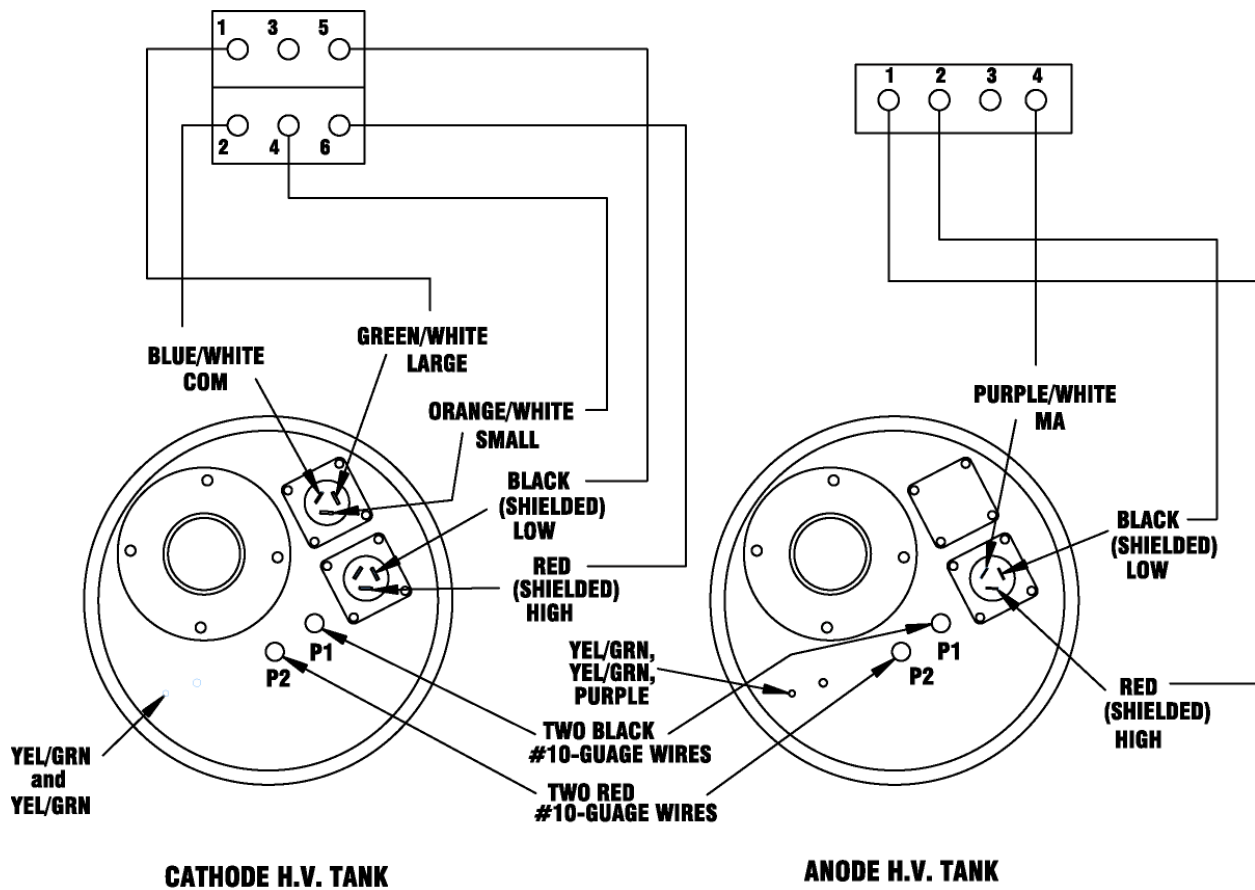

Figure 5-2 High Voltage Tank Connections
1. Locate ground wires for each tank (yellow/green, yellow/green and purple for anode; yellow/green and yellow/green for cathode) and securely fasten to ground lug (GND) on tank with 8/32 kep nut (see figure 5-2, page 7 Sec E).
Figure 5-2 b High Tension Cable Installation